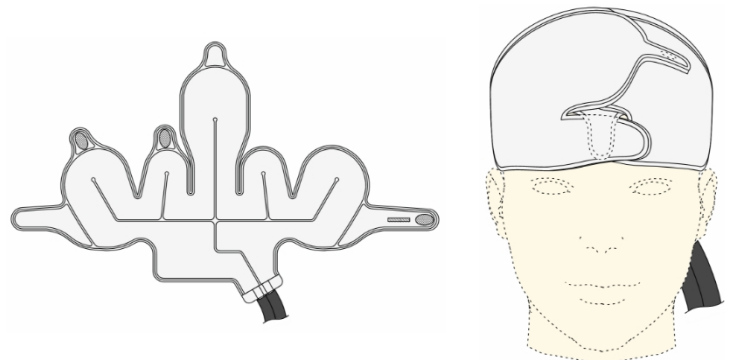

Figure 3. Cooling Wrap
The Cooling Wrap (patent pending, Figure 3) is designed to be wrapped around the patient's head to create a custom fit for each patient.
- The Cooling Wrap is manufactured to circulate temperature-controlled coolant throughout channels in the wrap (Figure 3).